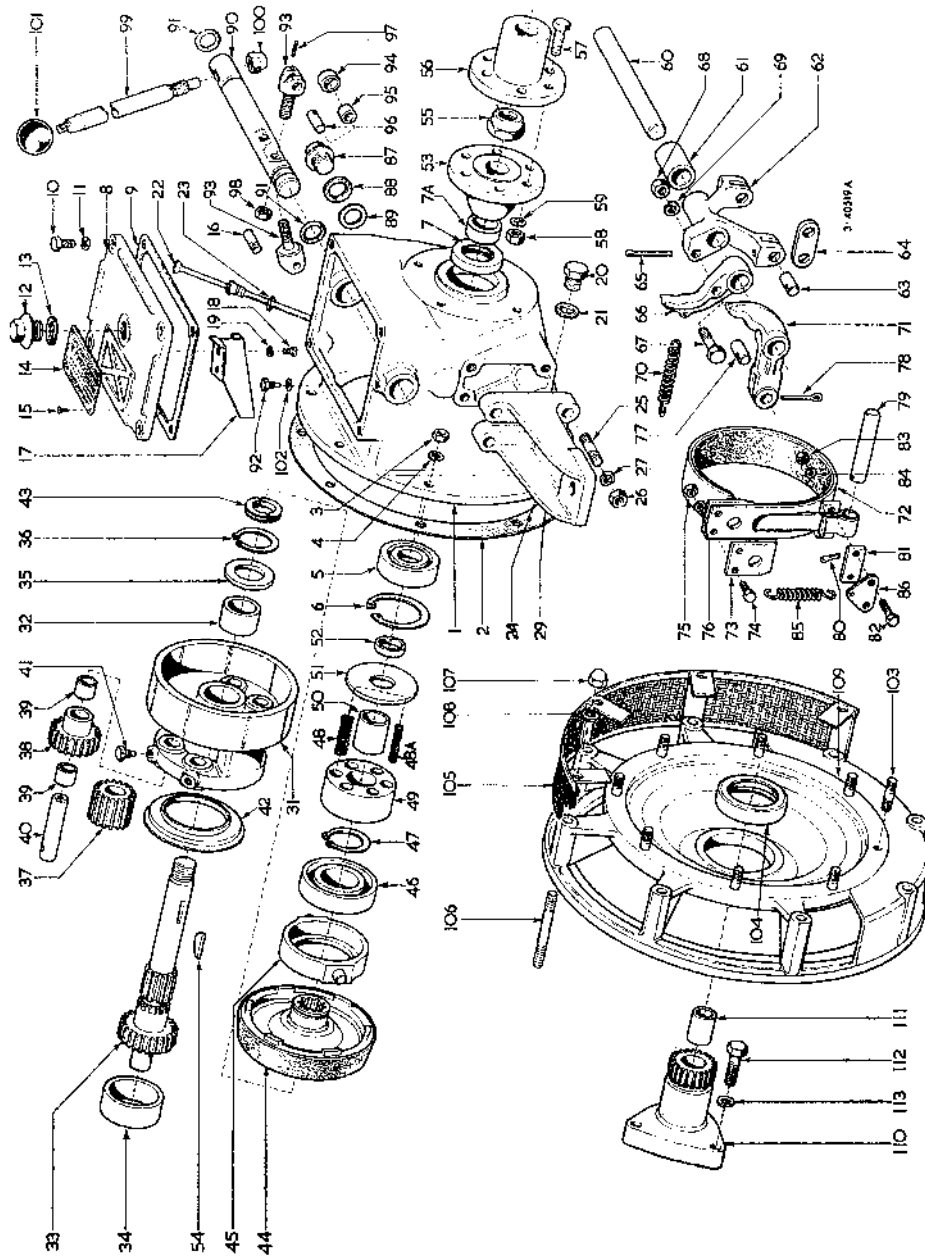
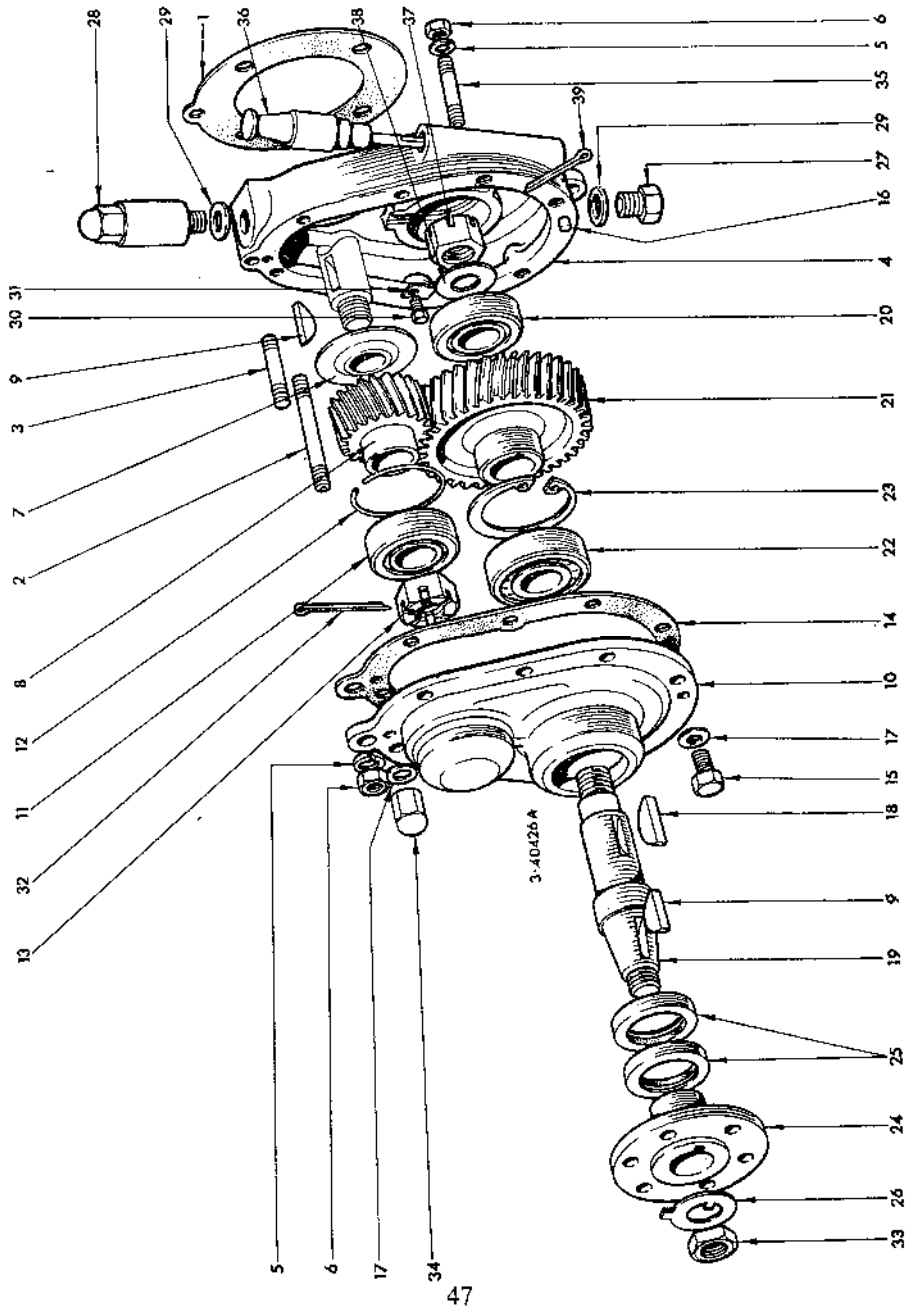

Fig. 16—Manual Reverse Gear
Fig. 17. Reduction Gear
Refer to page 47—Fig. 17
Refer to page 46—Fig. 16
Remove the following parts:—inspection cover (8) and joint (9), locating pin (92); draw operating shaft clear of operating levers (66 and 71); remove lock-nuts (98) and screw out roller adjusting screws (93) from shaft, now withdraw operating shaft (90) from reverse housing, remove retaining plug (87) and draw out fulcrum shaft (60), brake band anchor pin split pin (80), and anchor pin (79). On engines fitted with reduction gear see Fig. 17 and remove split pin (32) and nut (13), pinion (8), key (9), oil trap (7), and then supporting the gear gently drive reverse gear through bearing (5). For direct drive engines remove nut (55), half coupling (53), Fig 16, and remove gear as mentioned above. Having done this the bearing (5) can be removed, by removing circlip (6), gently tapping bearing from housing from reduction gear end (re-fit this bearing into housing first on re-assembly). Now with the reverse gear free from the housing remove thrust washes spacer (52), plate (51), spacer (50), springs (48), sleeve (49), circlip (47), ball race (46), yoke (45), cone (44), circlip (36), washer (35). To remove pinions withdraw screws (41), shaft (40), leaving gears (37 and 38) free to be removed from the housing. Withdraw bearing (34) and reverse gear shaft (33) can be withdrawn from gear housing.